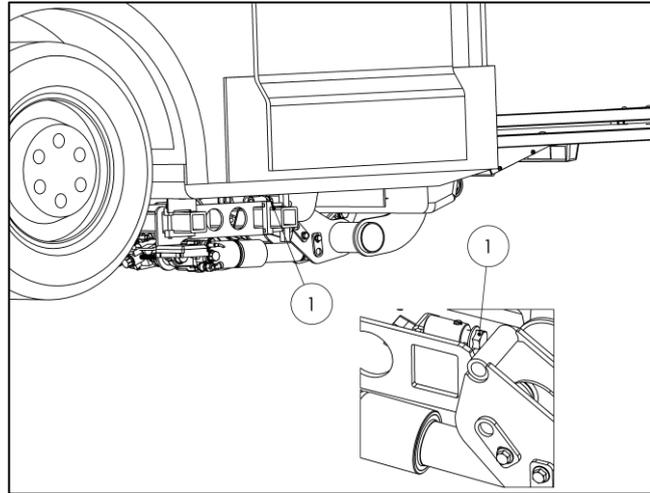

Fig. 74
- Use the adjustment screw (1) to set the lift height (see Fig. 74).